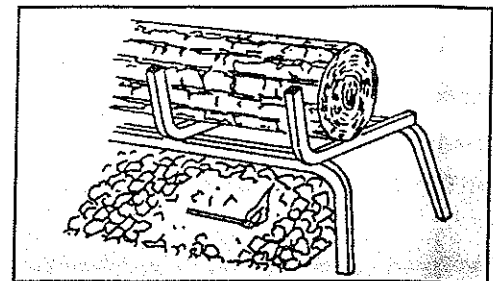

Figure 6. Lighting the log set.
- C. Lay match on top of embers and granules near gas burner input. **Do not hold match in hand.** (See Figure 6.)